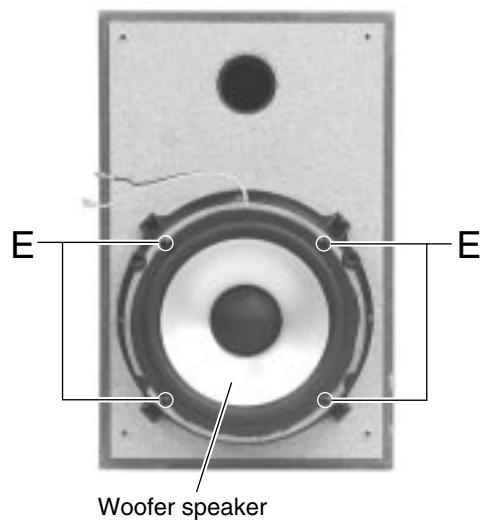

Fig.6
■ Removing the woofer speaker (See Fig.6)